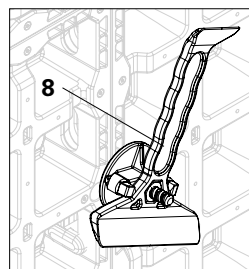

Fig. B9.01e
7. Tighten with the wingnut counterplate (54) from the rear side of the multi panel by hand or with the DUO cleaning device (8). (Fig. B9.01e)